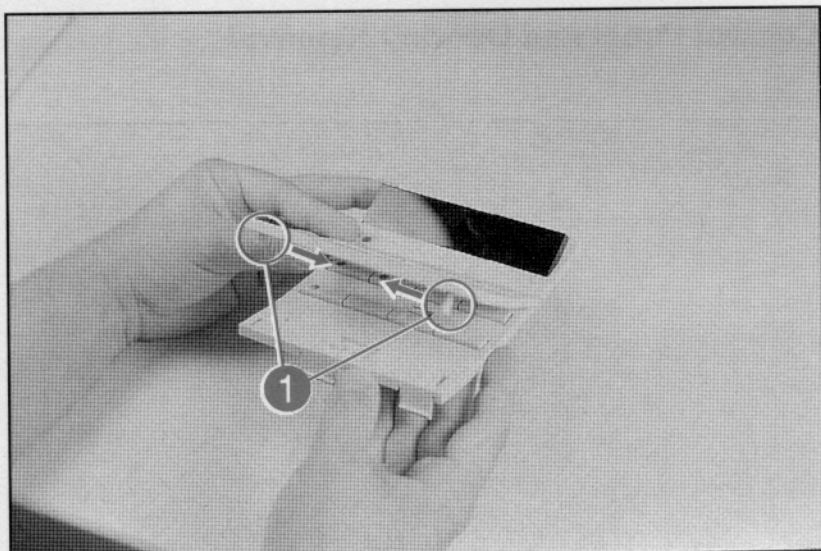

Figure 6-22 Changing the Control Panel Overlay
- 5 If you must replace the Control Panel Overlay, release the (2) retaining tabs from the Control Panel and separate the overlay from the Control Panel (see Figure 6-22, callout 1).
- 6 Squeeze the sides of the Control Panel Overlay to release the (2) tabs (see Figure 6-22, callout 1).